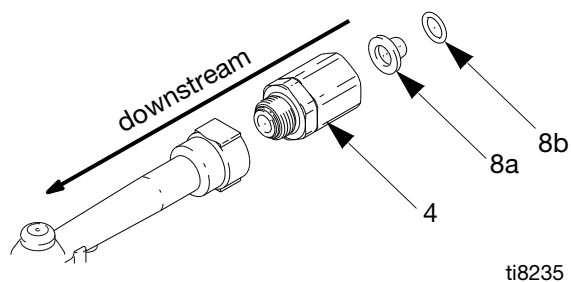

FIG. 24
2. Unscrew the hose from the swivel (4) (FIG. 24).
3. Remove the o-ring (8b) and the filter (8a) from inside of the swivel (4) with an o-ring pick (FIG. 24).
4. Push the new filter (8a) into the swivel (4), and make sure it is properly seated (FIG. 24).
5. Replace the o-ring (8b) (FIG. 24).
6. Thread the hose back into the swivel (4) (FIG. 24).
NOTE: Orient the new filter (8a) so the concave side of the screen faces downstream, as shown in FIG. 24.